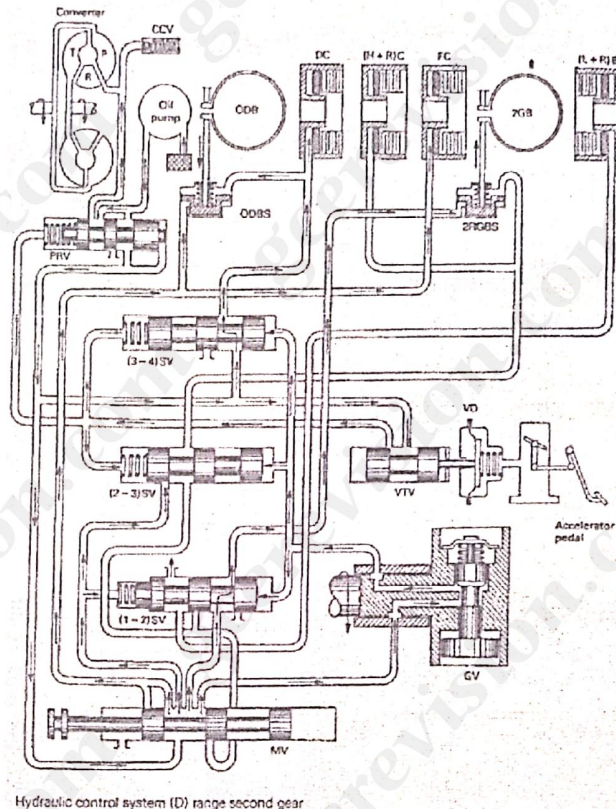

Figure 2
c. Figure 2 below is the hydraulic control box or valve body.